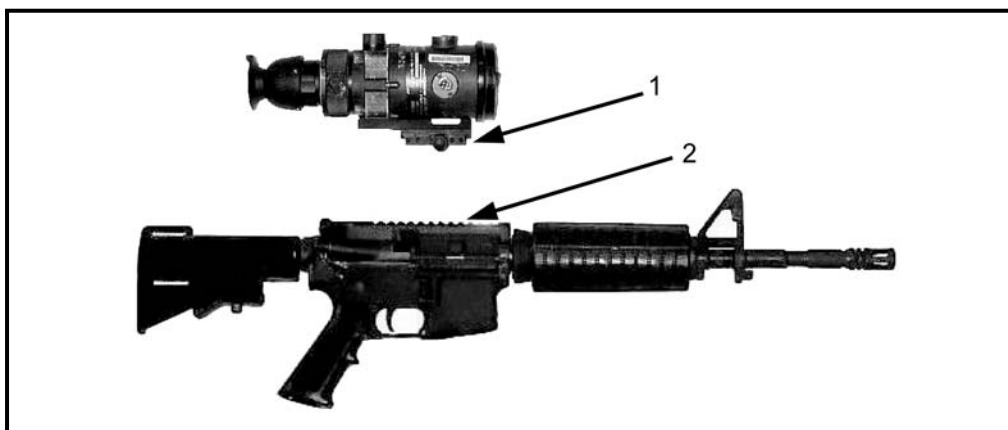

Figure 2-39. AN/PVS-4 on the M4/M4-MWS-series weapon.
b. **M4/M4-MWS-Series Weapons** (Figure 2-39, page 2-26). The Picatinny rail grabber with a mounting adapter (1) on the bottom of the AN/PVS-4 is aligned with a notch on the integrated rail (2) of the M4/M4-MWS-series weapons ensuring the AN/PVS-4 is positioned to accommodate an effective firing position once the eyecup is depressed. The AN/PVS-4 will not retain zero if the rail grabber extends beyond the end of the integrated rail when mounted. Tighten the torque-limiting knob clockwise until it clicks twice. Retightening of the rail grabber is recommended after a few rounds have been fired to ensure the sight is